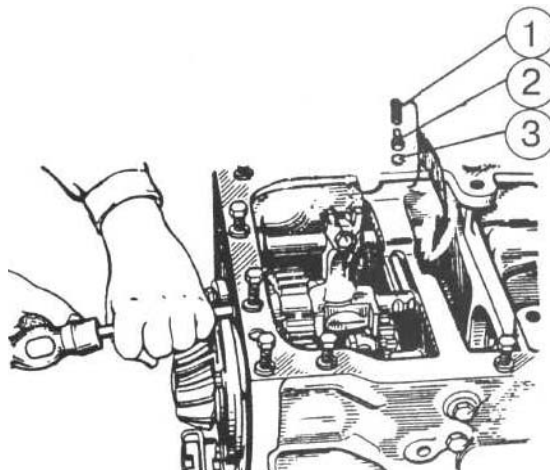

Figure 4.63
l) extract ball 3 (Figure 4.63), fixing element 2, spring 1 out of GB body under rear travel lead.